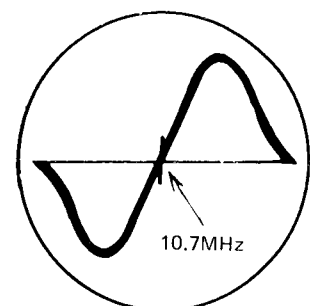

Fig. 13
5. Align the L20 so that the S-curve will become symmetrical and maximum. (Refer to Fig.13.)